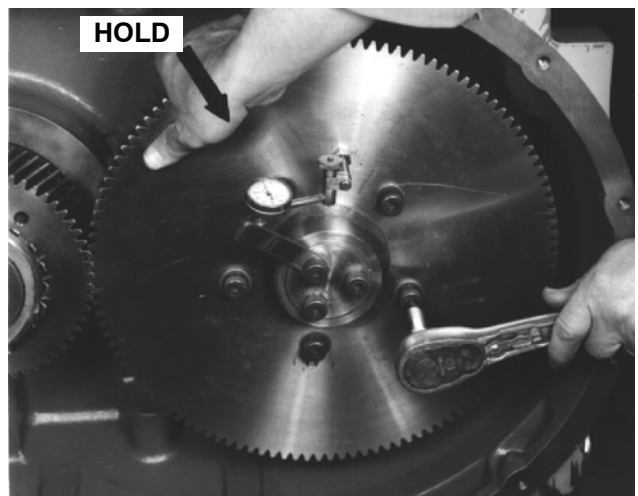

FIGURE 32
32. Hold the gear and shaft from turning and evenly tighten five gear to hub "Nylok" screws (FIGURE 32, page 37). Be sure the indicator reading does not change while tightening the screws. The rotors are held in time by the clamping action of the screws and distortion of the flat washers into the gear holes. Tighten screws securely. Check interlobe clearance to make sure the 2/3 indicator reading is on the discharge side.